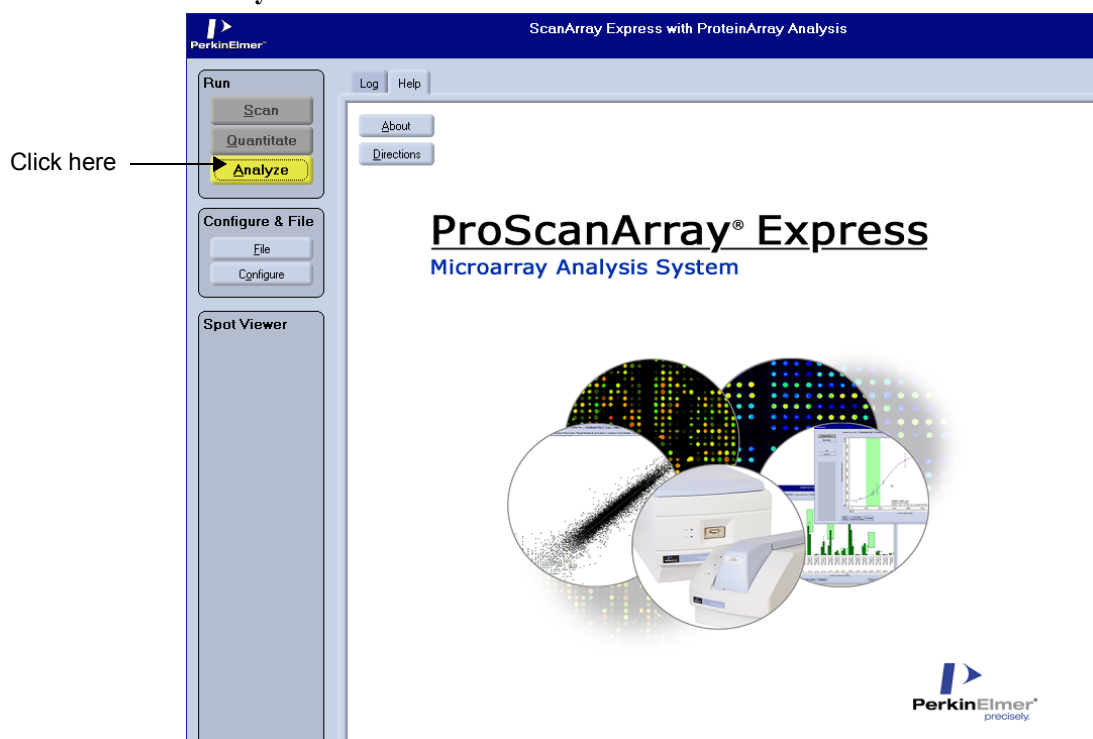

Figure 2-1 The ProScanArray Express Main Window
2. The ProScanArray Express opens to the *Main Window*, shown in Figure 2-1. Click **Analyze**.